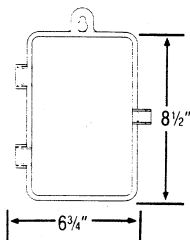

Figure 1.
2. Mount case in a vertical position using mounting holes provided (see Figure 1).